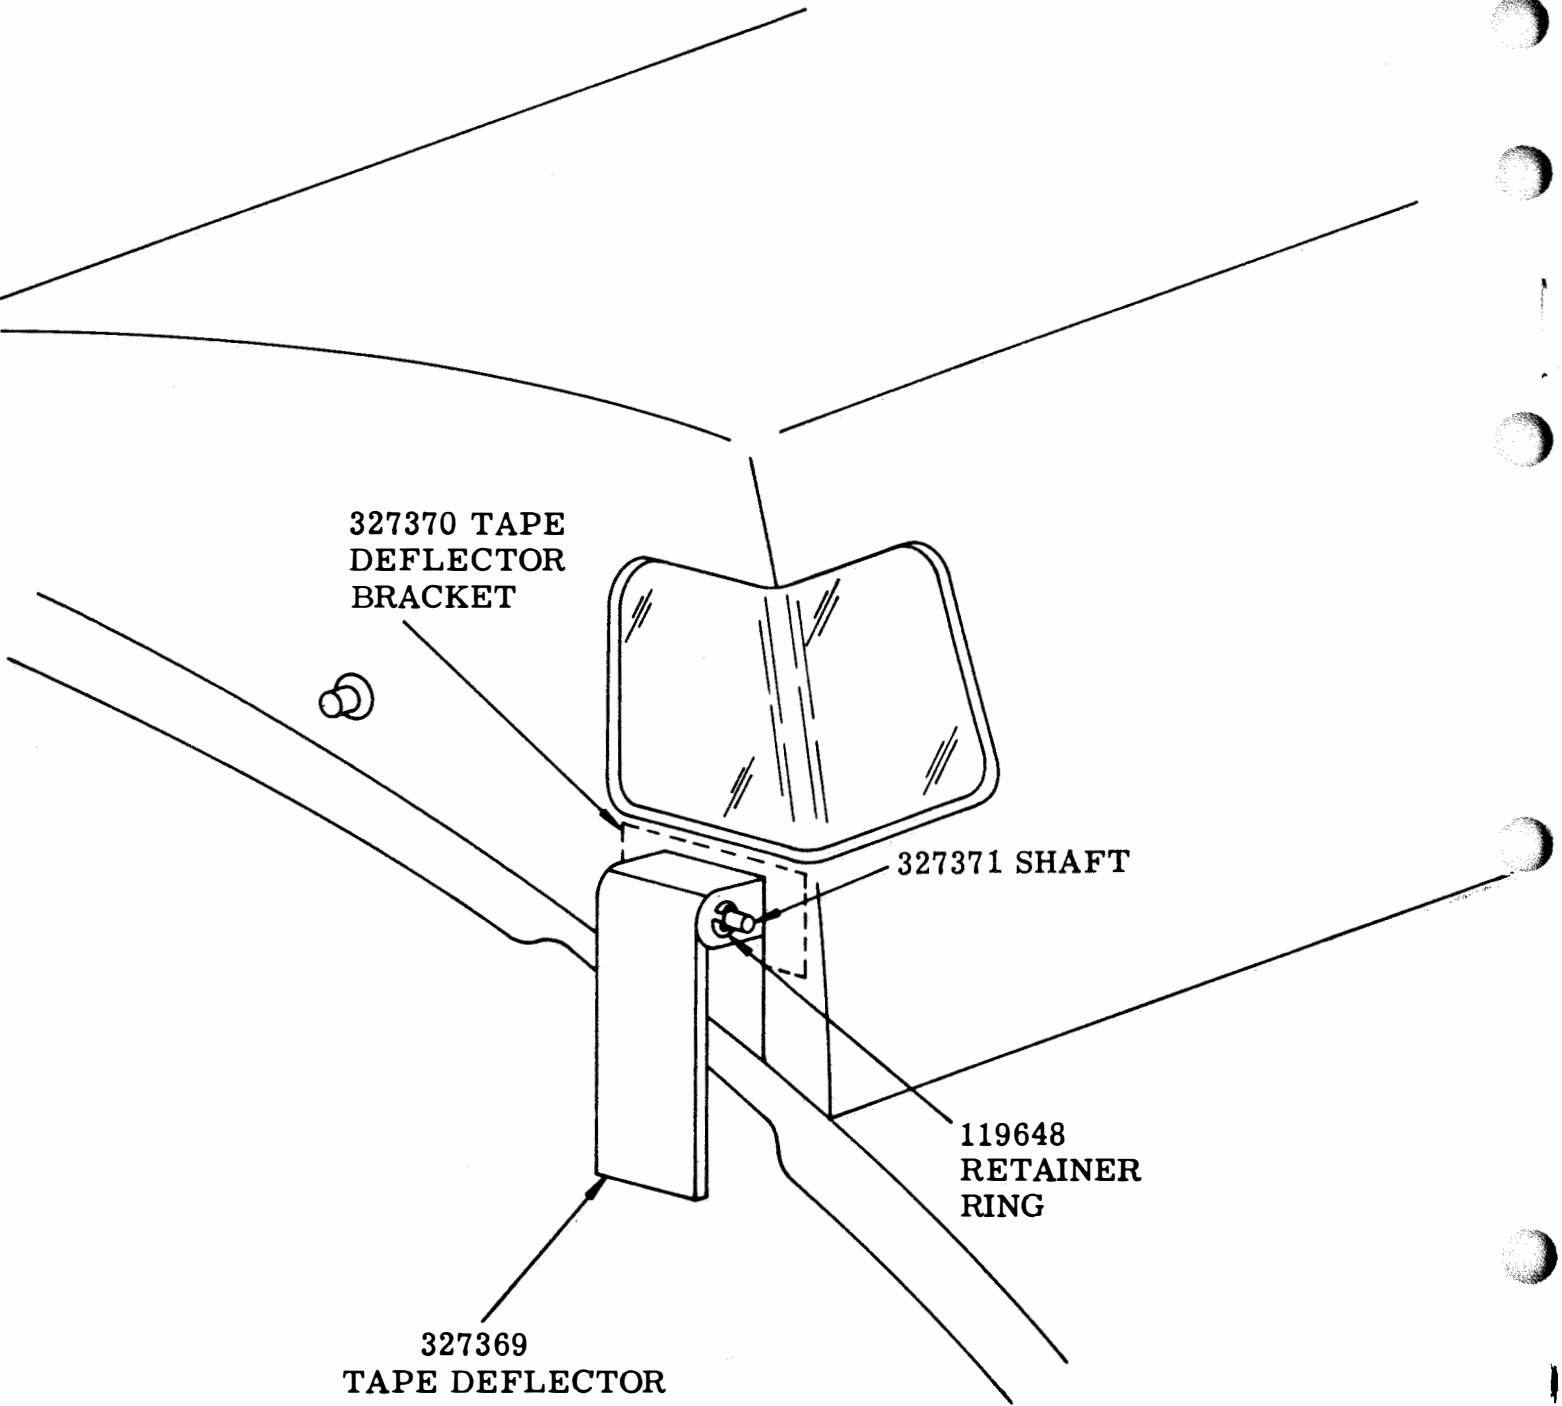

Figure 2
- 2.05 Assemble the 327369 tape deflector to the 327370 tape deflector bracket using the 327371 shaft and the 119648 retainer rings. (See Figure 2.)
- 2.07 Install the assembled tape deflector in place of the 192266 plate using the retained hardware. (See Figure 2.)